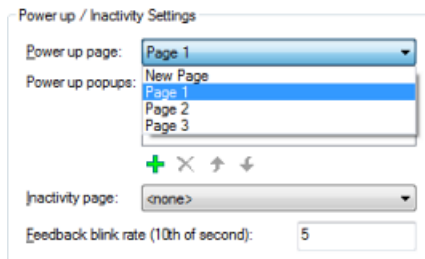

FIG. 53 Project Properties dialog (Panel Setup Information tab) - Power Up Page
2. In the *Panel Setup Information* tab, click the down arrow next to the **Power up page** field to display a list of all of the pages in this project (FIG. 53):